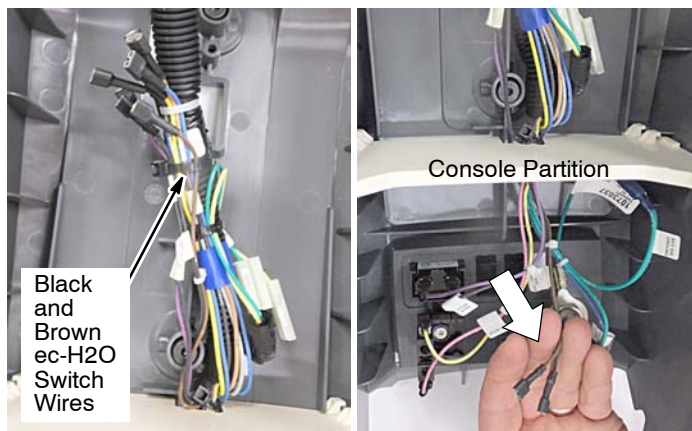

Fig. 10
- Locate the factory installed black and brown ec-H2O switch wires that are cable-tied to the main harness. Cut cable-ties. Lift the console partition and route the two wires to the switch area as shown (Figure 10). Replace partition.